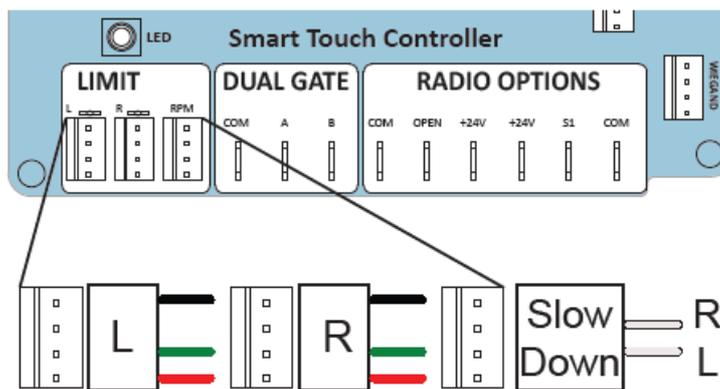

Figure 9. Connect the SD50VF2/3 Limit Sensor(s)
**Note:** On SD50VF2/3 models, connect the plug from the left and right limit sensor to the matching L/R terminal on the STC board (Figure 9).
15. (SD50VF2/3 only) Connect the 4-wire slow-down plug to the RPM terminal with the white wire from the left limit sensor below the wire from the right limit sensor (Figure 9).